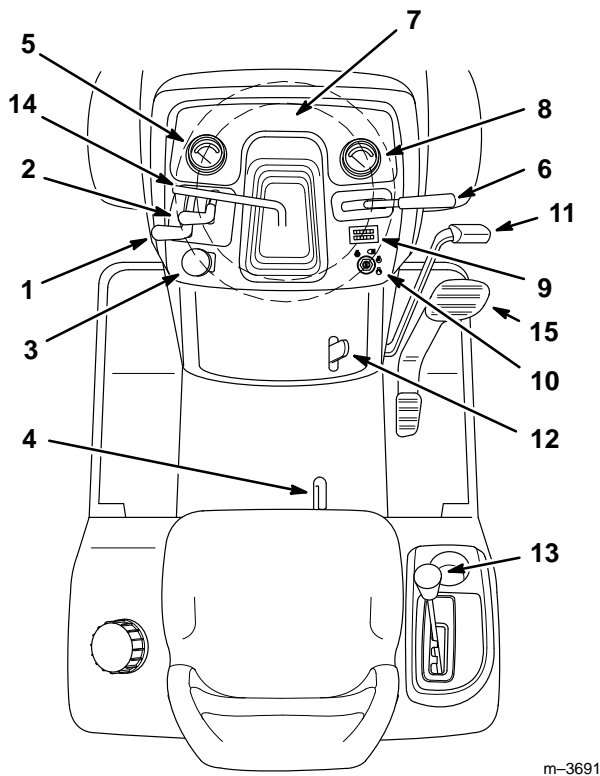

Figure 10
Become familiar with all the controls (Fig. 10) before you start the engine and operate the machine.
1. Push the brake pedal (Fig. 10) down and hold it in the depressed position. The machine will not drive while the parking brake is set.
2. Lift the parking brake lever (Fig. 10) up and gradually take your foot off the brake pedal. The brake pedal should stay in the depressed (locked) position.
1. Push down on the brake pedal (Fig. 10). The parking brake lever should release.